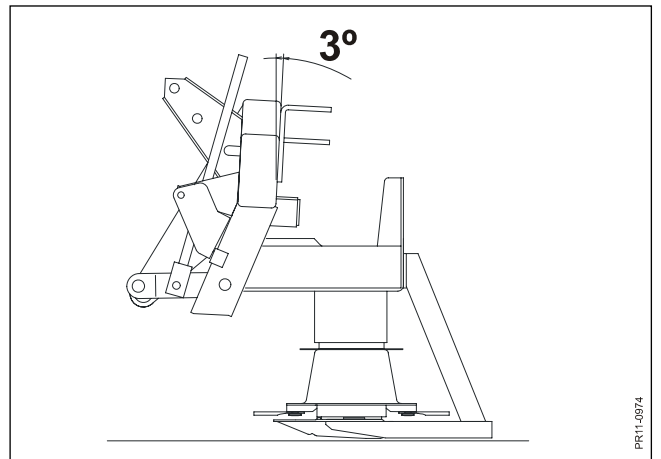

Fig. 3-10
- Fig. 3-10** The stubble height can be increased by tipping the machine up to 3° to the rear, meaning that the cutter bar moves horizontally across the ground.